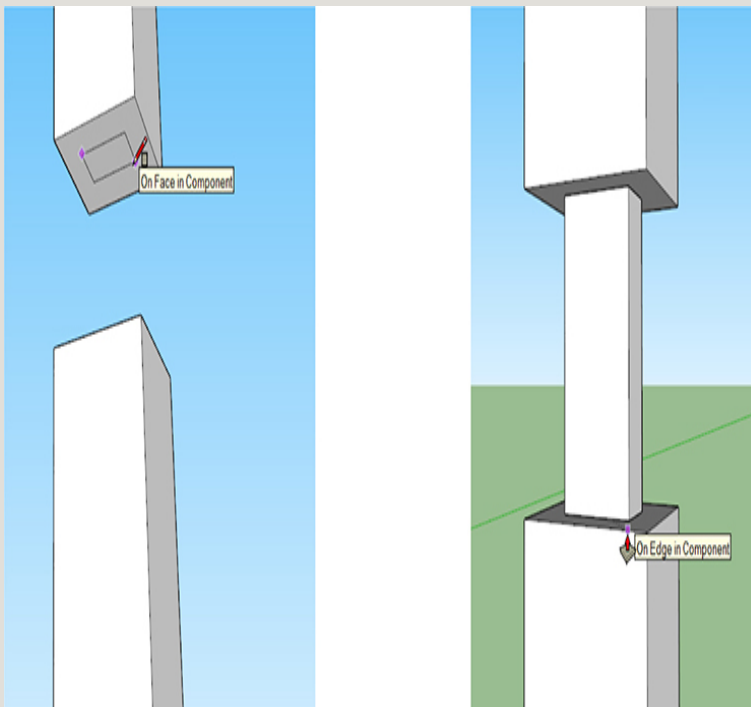

Figure 3-25 Add a stand to the dot over the "i."
8. Add a stand to the dot over the "i" (Figure 3-25). Obviously, the dot won't suspend like that in a 3D print, so we need to attach it to the lower part. Orbit under the dot and draw a rectangle on it. Then Push/Pull the rectangle down until it touches the lower part (watch for an inference). Done!